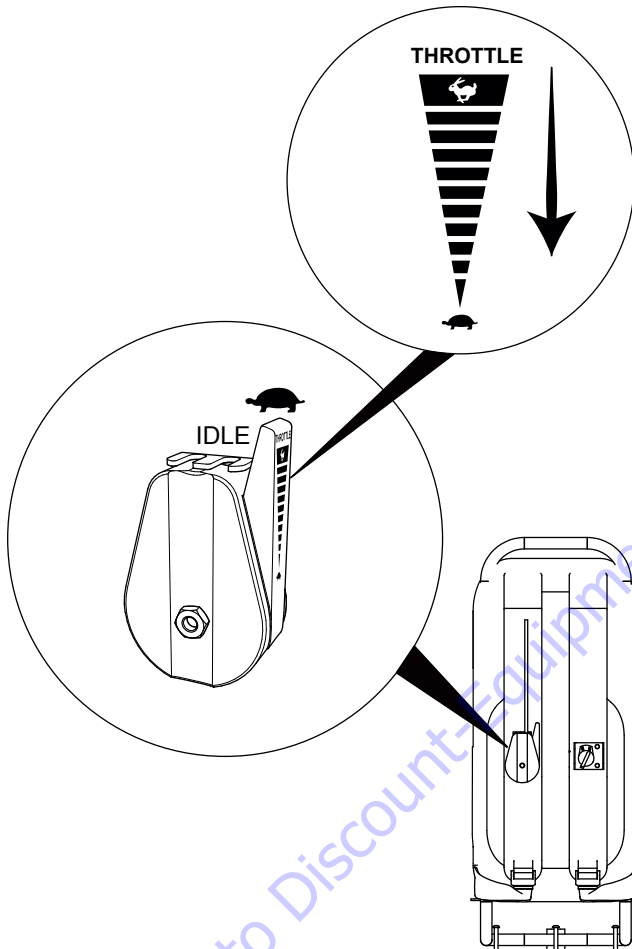

Figure 20. Throttle (Turtle/Idle Position)
2. Place the throttle lever in the **UP** position (**TURTLE**) (Figure 20) and run the engine for three minutes at **idle** speed.